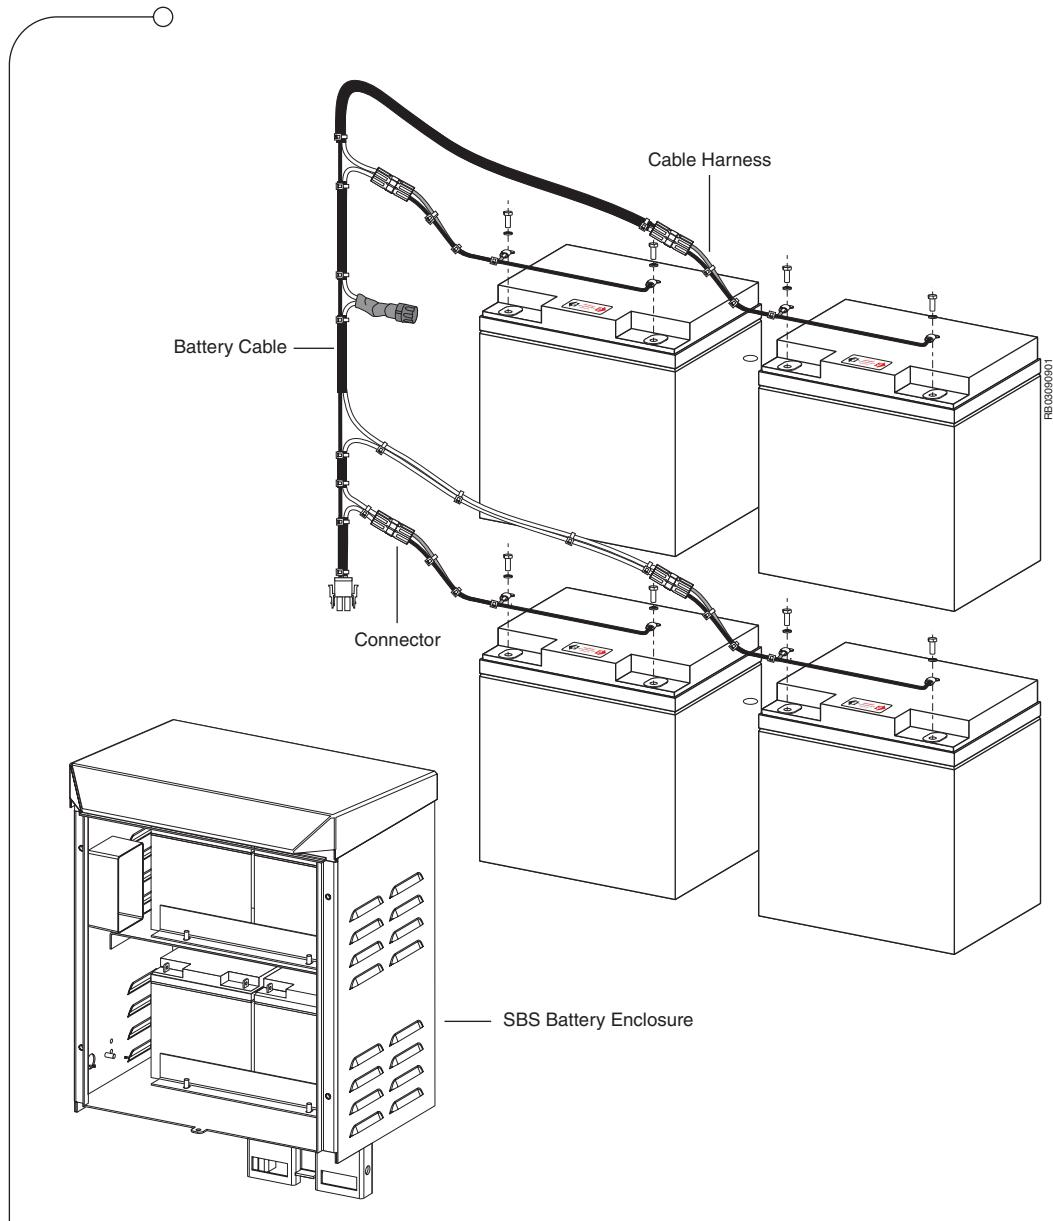

Figure 3.24 Battery Cable Connection
2. Connect the SBS Backup Battery to the Cable Harness by attaching the red and black lug rings to the positive (+) and negative (-) poles on the battery and secure with the appropriate hardware, as shown in Figure 3.24 on page 79.